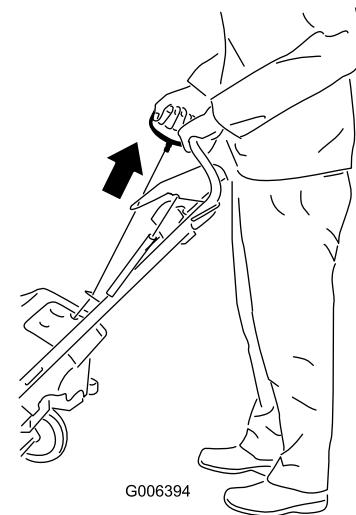

**Figure 12**
3. Firmly push in the primer 2 times with your thumb, holding the primer in for a second before releasing it each time (Figure 12).